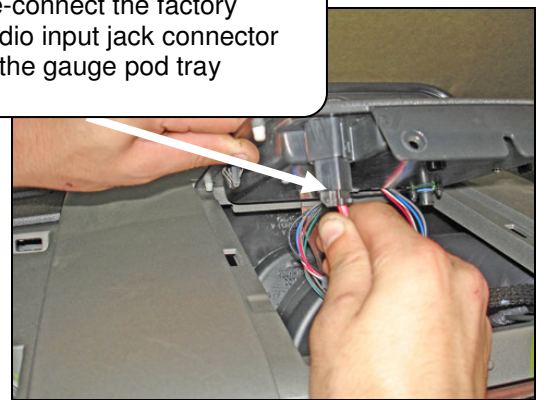

Figure 13
13. Re-connect the factory audio input jack connector to the gauge pod tray (see Figure 13).